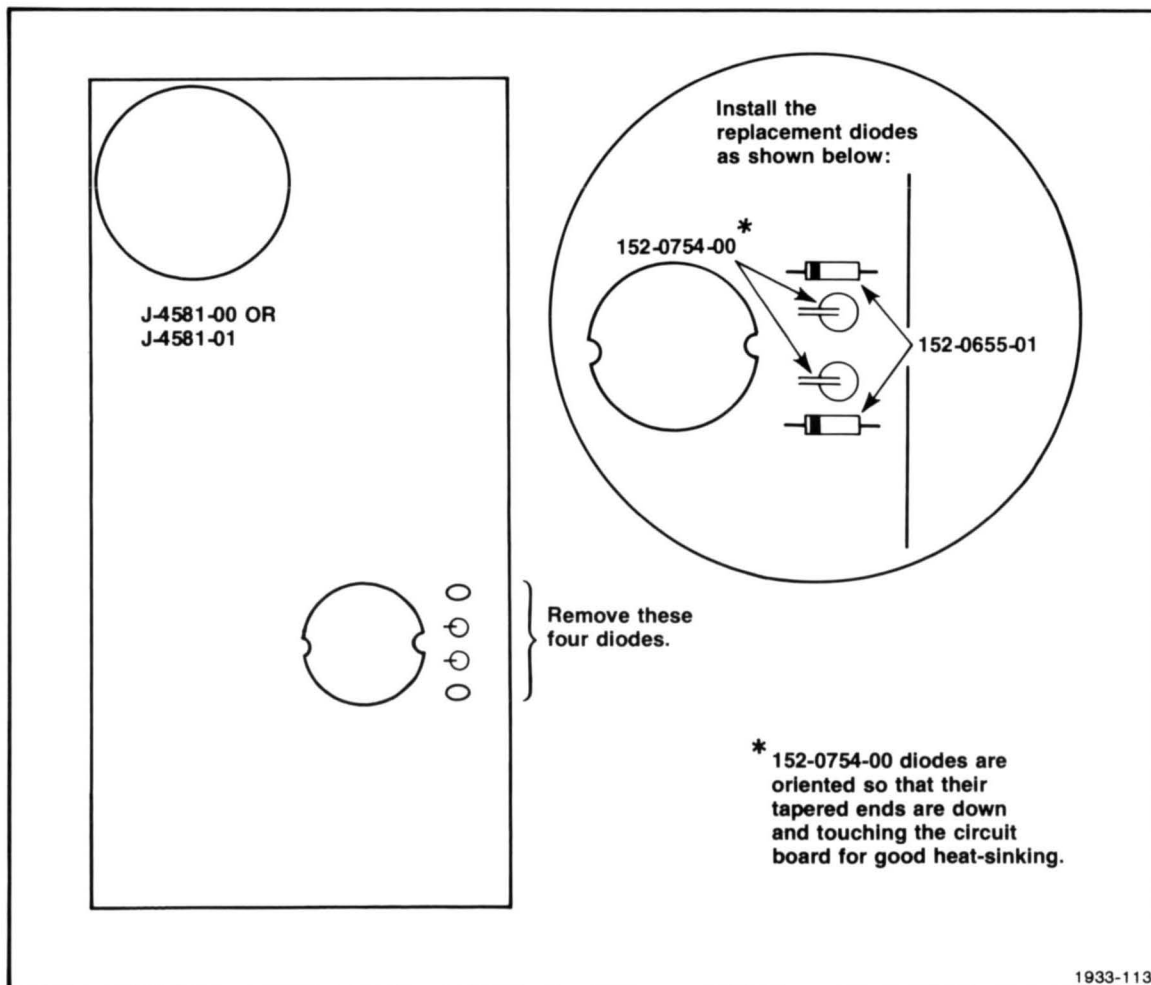

Figure K-1. Power Supply Circuit Board Showing the Four Diodes.
6. **Unsolder** and remove the four diodes shown in Figure K-1.
7. **Solder** the two replacement diodes (152-0754-00) in the same holes as shown in Figure K-1. Be sure to orient the diodes as shown.